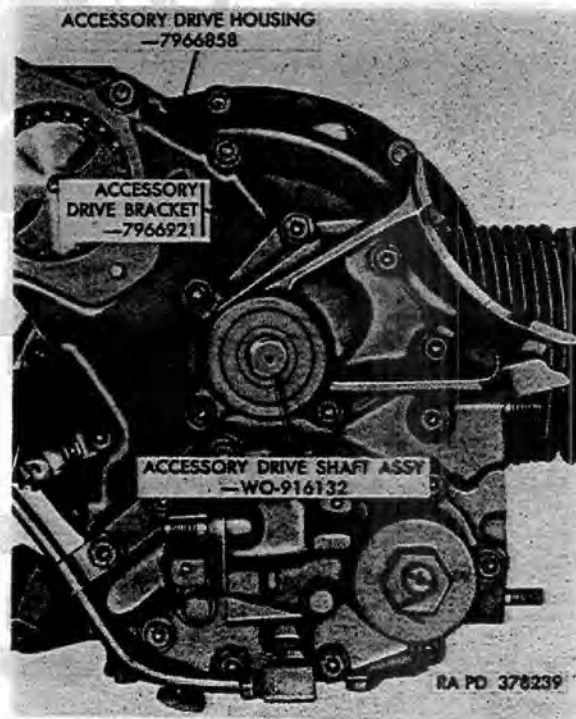

Figure 12. Accessory drive shaft and bracket installed.
b. Remove six nuts, lockwashers, and flat washers attaching accessory drive bracket to accessory drive housing and remove bracket and gasket (fig. 12). Discard gasket.